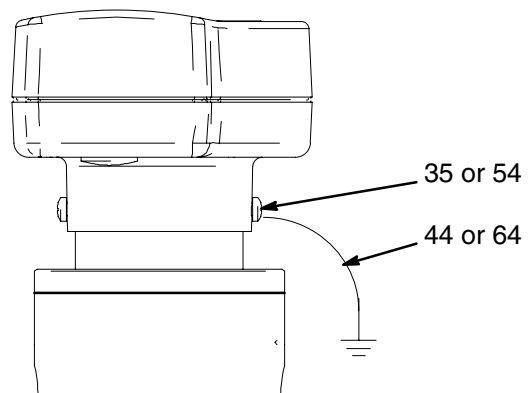

Fig. 7
2. Ground the Informer display by connecting the ground wire (44 or 64) from the screw (35 or 54) to a true earth ground. See Fig. 7.